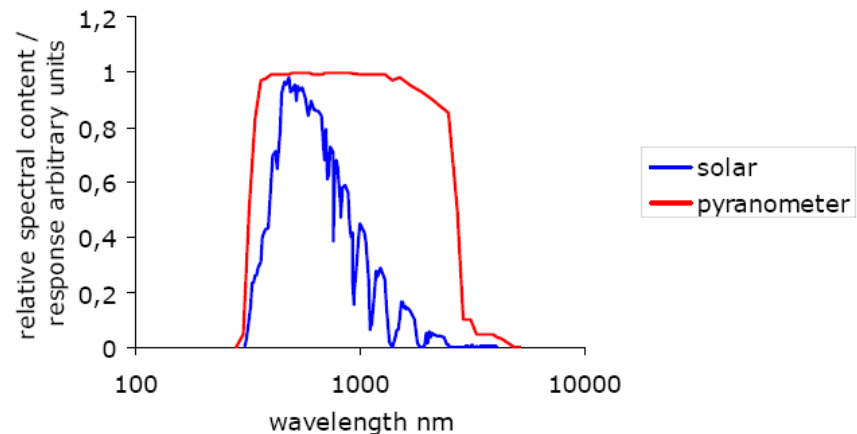

FIGURE 7-1. Spectral response of the pyranometer compared to the solar spectrum. The pyranometer only cuts off a negligible part of the total solar spectrum.
2. Glass dome – limits the spectral response from 300 to 2800 nanometers (cutting off the part above 2800 nm) while preserving the 180 degrees field of view (FIGURE 7-1). Another function of the dome is that it shields the thermopile sensor from convection.